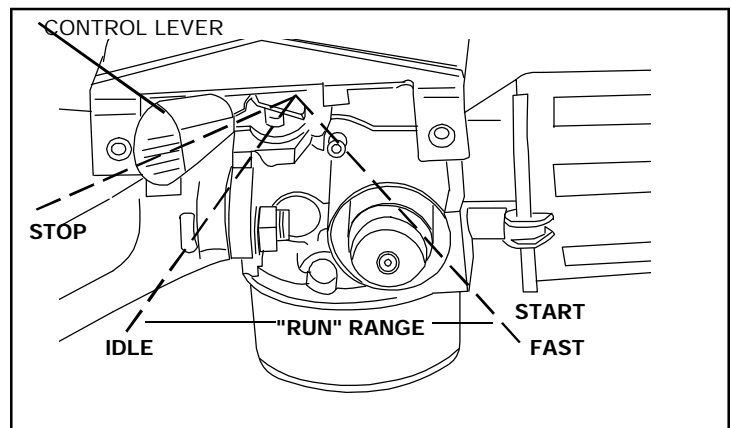

Figure 2
NOTE: See equipment manufacturer's instructions for control positions which correspond to engine control positions in Figures 2 and 4.
- 1) Move control lever (figure 2) to "FAST" or "START" (see equipment manufacturer's instructions).